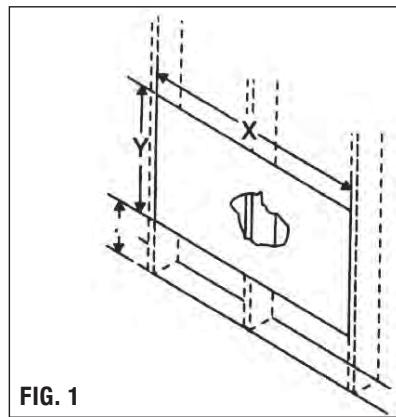

FIG. 1
3. Measure between inside edges of every other stud as shown in Fig. 1.
NOTE: Carefully measure and cut an opening with the following dimensions, depending on your model. (See Fig. 1 and 2.)